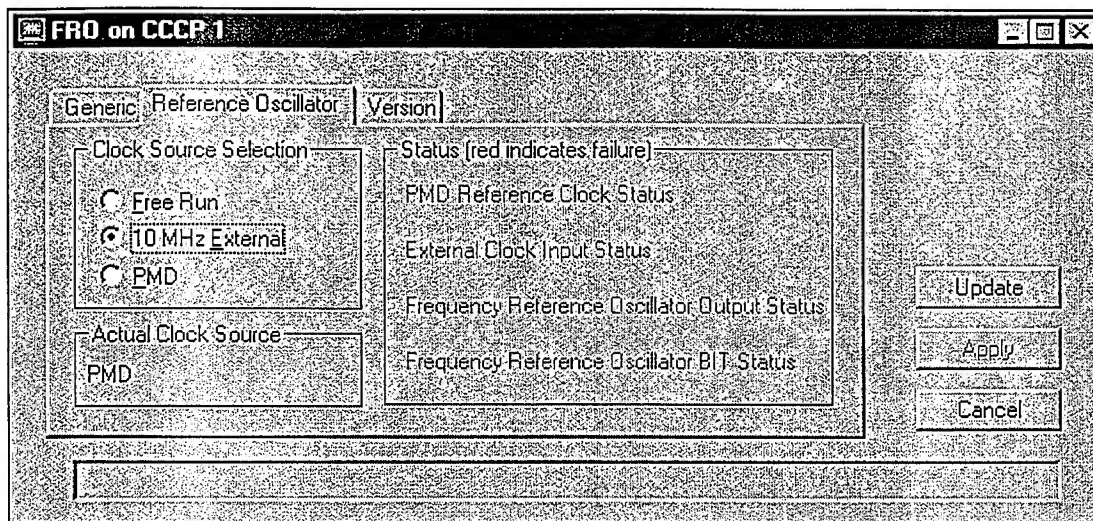

Figure 12. Reference Oscillator Window Reference Oscillator Tab
- b) Select the Reference Oscillator tab (see Figure 12).